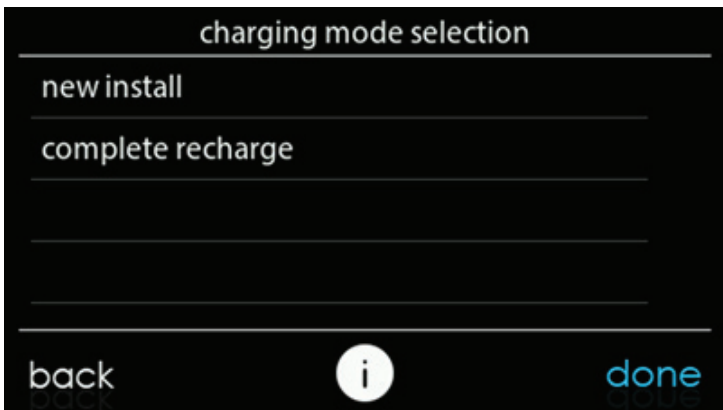

Fig. 18 – Charging Mode Selection A200037
12. If this is a new install, i.e. the ODU is factory charged, then select "new install" in the "charging mode selection" screen (see Fig. 18)